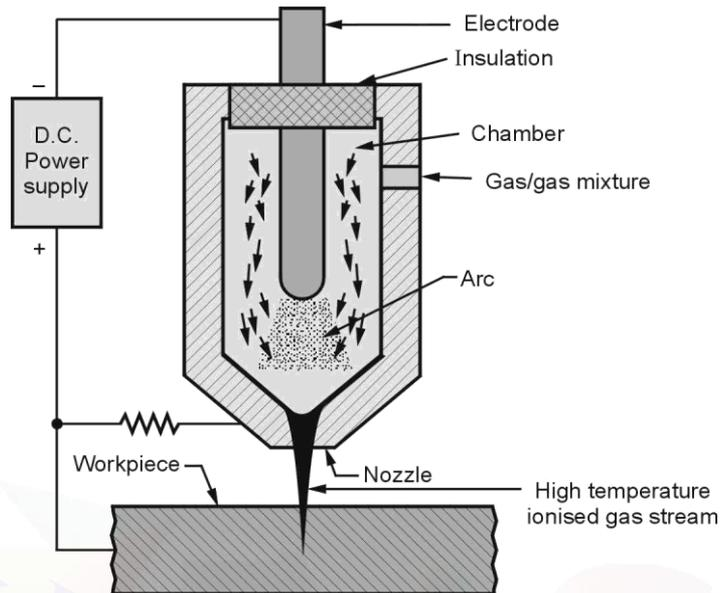

Fig. 2.22 : Principle of plasma arc machining
- Fig. 2.22 shows the general set-up for plasma arc machining or many times called as **Plasma Arc Cutting**.
- In PAM, as per Fig. 2.22 high velocity jet of high temperature ionised gas (plasma) is directed on the component (workpiece) surface with the help of a plasma cutting torch.
**Q.31** *Draw the schematic set-up of plasma arc machine. Indicate various parts. (Fig. 2.22)*